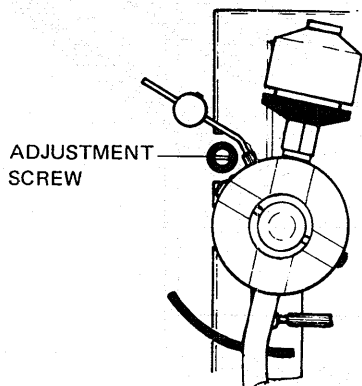

Fig. 1
1. Refer to Fig. 1. Check that the drop point fine adjustment screw is properly centered in the hole. If not, refer to step 2 in adjustment procedure.